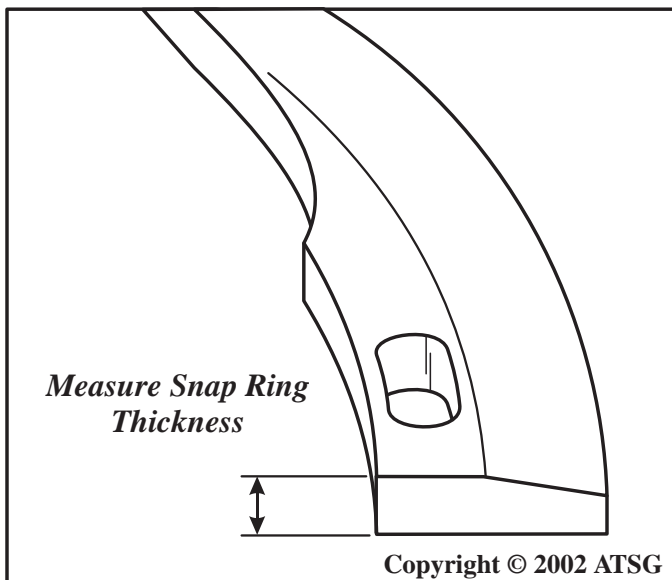

Figure 182
12. Measure thickness of your snap ring *exactly* as shown in Figure 182, to ensure that your snap ring is the proper thickness.